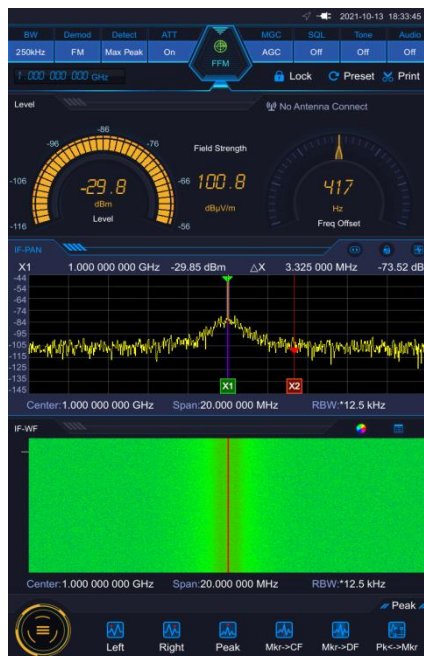

Fig. 3.17 Sinusoidal Signal Measurement Results (Activation of Frequency Cursor)
- 3) Press  key to pop up the function menu, and select [Peak] to activate the frequency cursor and make it jump to the peak position of the signal on the display screen. The frequency and magnitude values can be read out by the cursor and displayed in the active functional area. At this time, the cursor reading frequency is 1GHz and the magnitude is about -29.96dBm, as shown in Fig. 3.17.